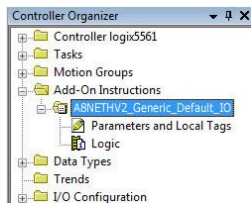

Figure 31: Generic Default IO Add-On Instruction
- 2) Right click on “Add-On Instructions” in the controller organizer view and select “Import Add-On Instruction”. Browse and import the generic default I/O add-on instruction. Refer to Figure 31.